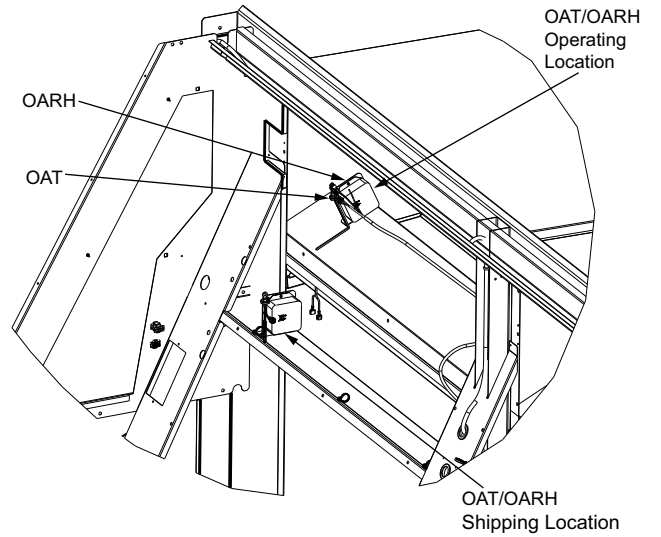
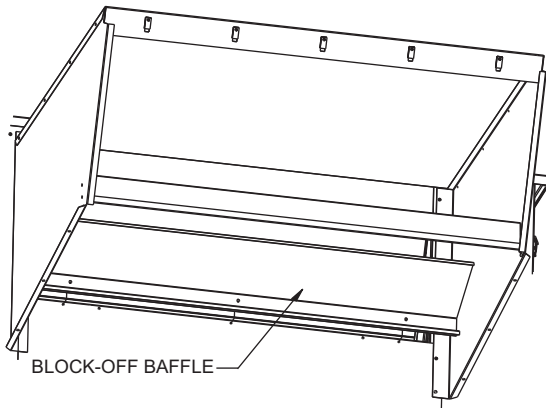

Fig. 24 — OAT/OARH Sensor/Shipping Locations
Fig. 27 — Mounting Block-Off Baffle to the Unit
7. Remove and save the screws securing the OAT/OARH sensor assembly in the shipping location. The sensor assembly will be relocated to the OA hood. Make sure the sensor assembly and wire harness are accessible during hood installation. See Fig. 24 for OAT/OARH sensor shipping location. **NOTE:** Not all units will include an OARH sensor.
10. Locate and mount block-off baffle using 3 screws. See Fig. 27 for example of mounting the block-off. Once the block-off baffle is installed, reinstall the OAT/OARH sensor assembly sensor on the baffle in the operating location using the screws. See Fig. 24 for the OAT/OARH sensor operating location.